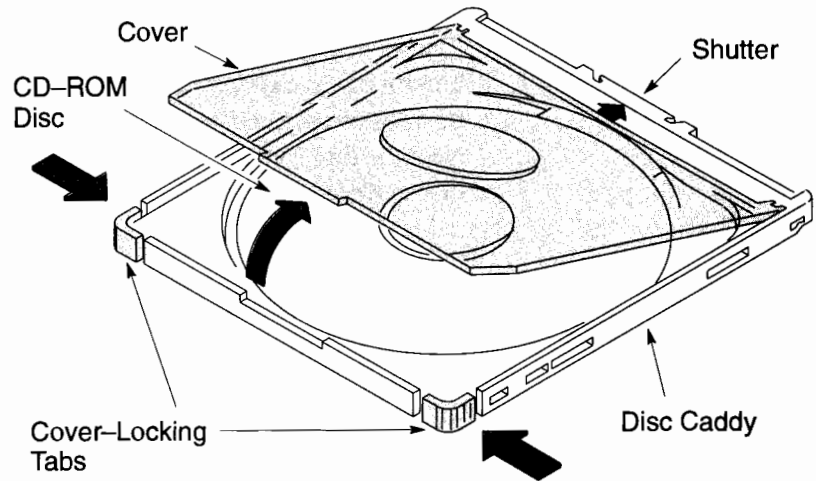

Figure 6-2. CD-ROM Disc and Disc Caddy
A CD-ROM disc mounts into a rigid plastic caddy (see Figure 6-2). The drive accesses data on the CD-ROM disc through a shutter in the bottom of the caddy. When you insert the disc caddy into the drive, the shutter opens automatically to expose the disc surface. When you eject the disc caddy from the drive, the shutter closes to protect the disc surface.
To open the CD-ROM disc caddy, press inward on the two cover-locking tabs and lift the cover, as shown in Figure 6-2.
1. Open the disc caddy by pressing inward on the two cover-locking tabs and lifting the cover, as shown in Figure 6-2.